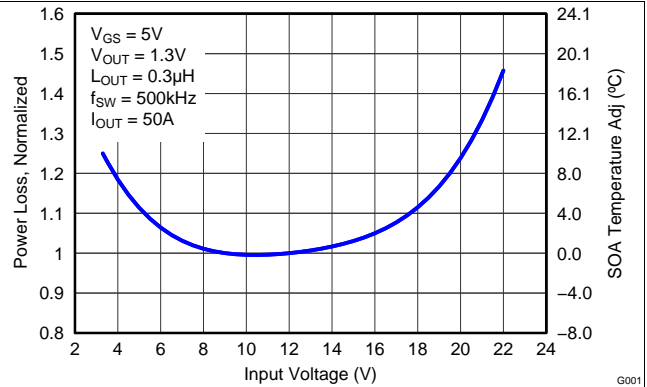

Figure 8. Normalized Power Loss vs Input Voltage
- Normalized power loss for input voltage ≈ 1.03 (Figure 8)
- SOA adjustment for input voltage $\approx 1.3^\circ\text{C}$ (Figure 8)